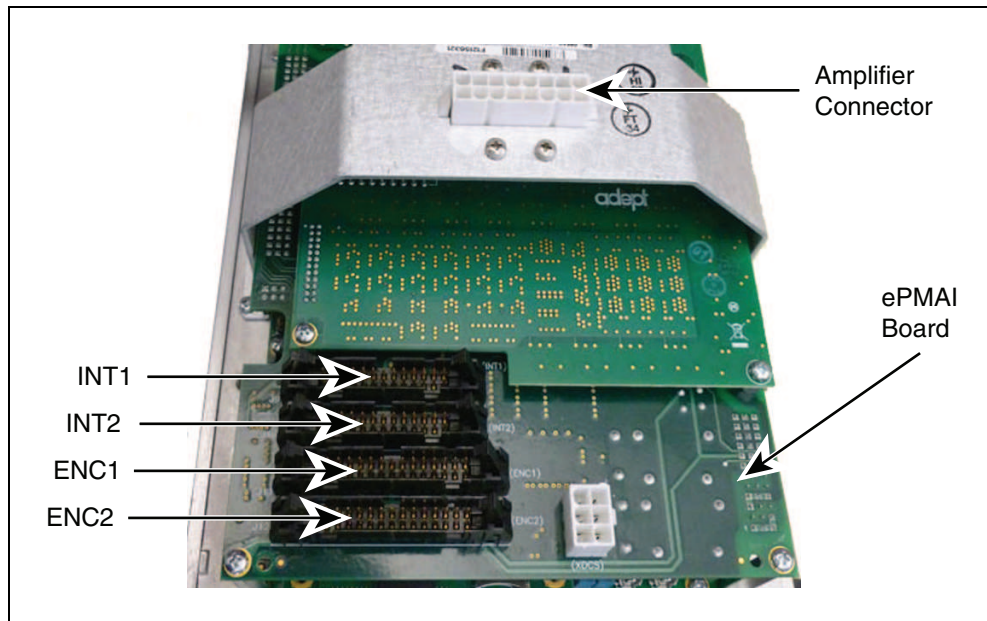

Figure 9-6. Connectors on eAIB Chassis and ePMAI Board
5. Connect the white amplifier cable (motor power) to the amplifier connector located on the chassis bracket. See Figure 9-6.